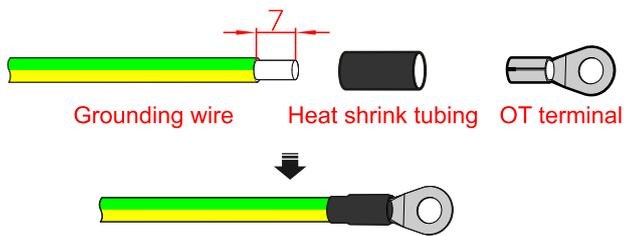

Figure3-28 Stripping diagram of external grounding wire (unit: mm)
- Step 1 Strip the insulation layer of grounding wire for about 7mm, insert the wire into OT terminal and crimp them by crimping tool, the as shown in Figure3-28.